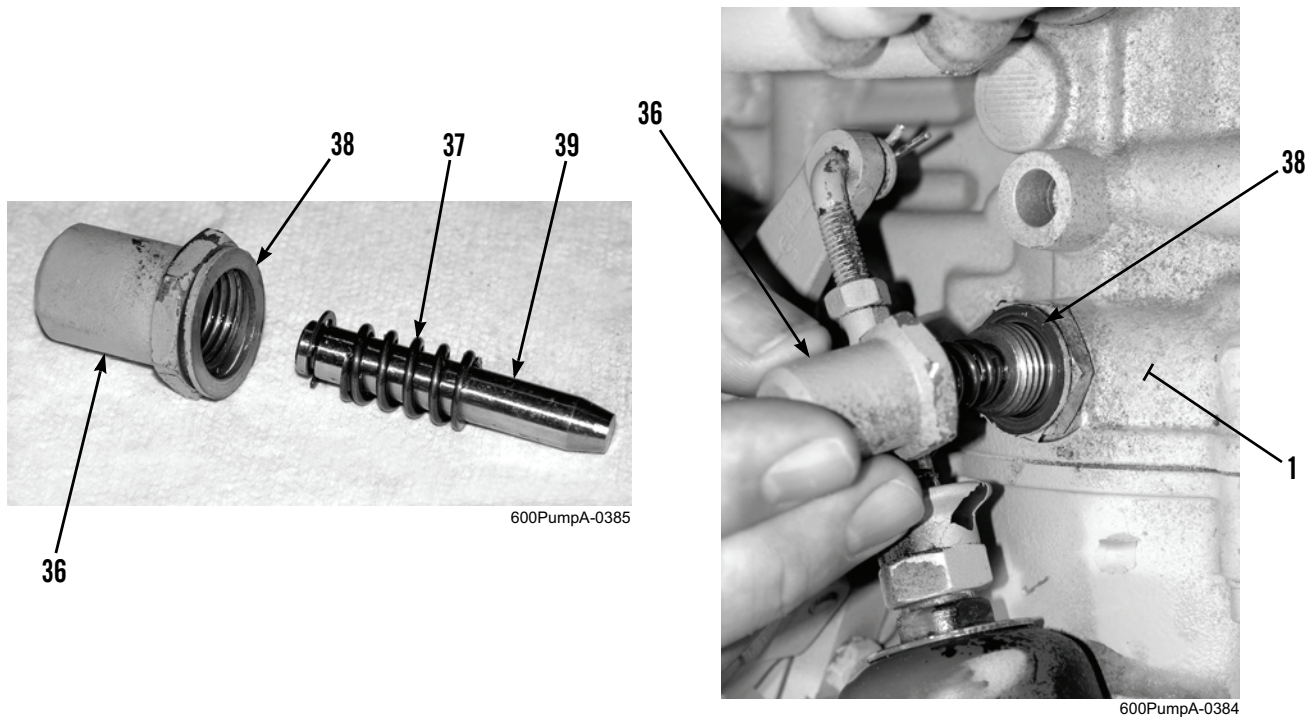

Figure 29. Installing Positioning Pin (Unlocked Position).
3. Install positioning pin (Figure 29, Item 39) through compression spring (Figure 29, Item 37).
4. Install new copper sealing ring (Figure 29, Item 38), positioning pin (Figure 29, Item 39) with compression spring (Figure 29, Item 37), and secure on fuel injection pump (Figure 29, Item 1) with bolt sleeve (Figure 29, Item 36).